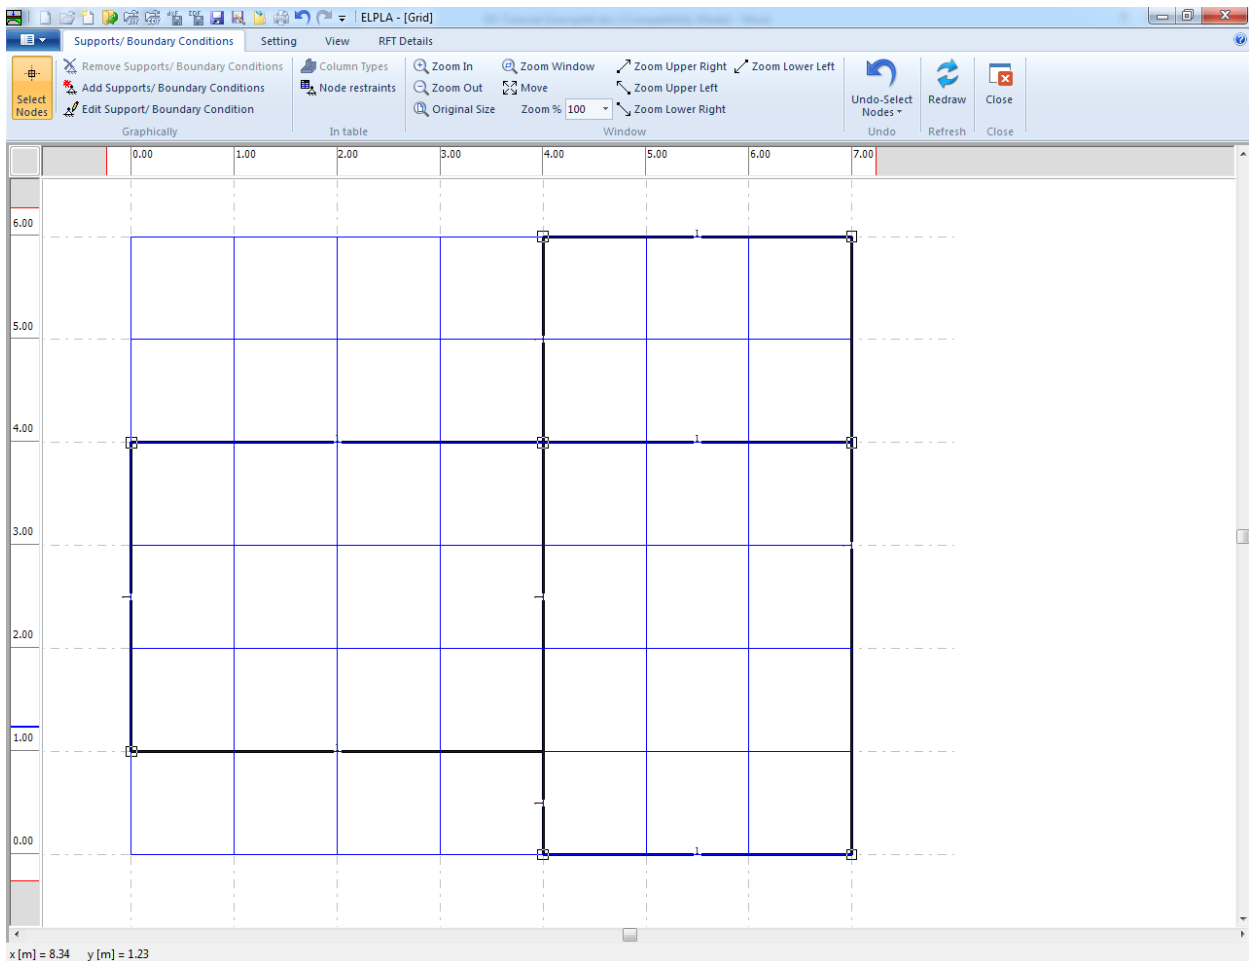
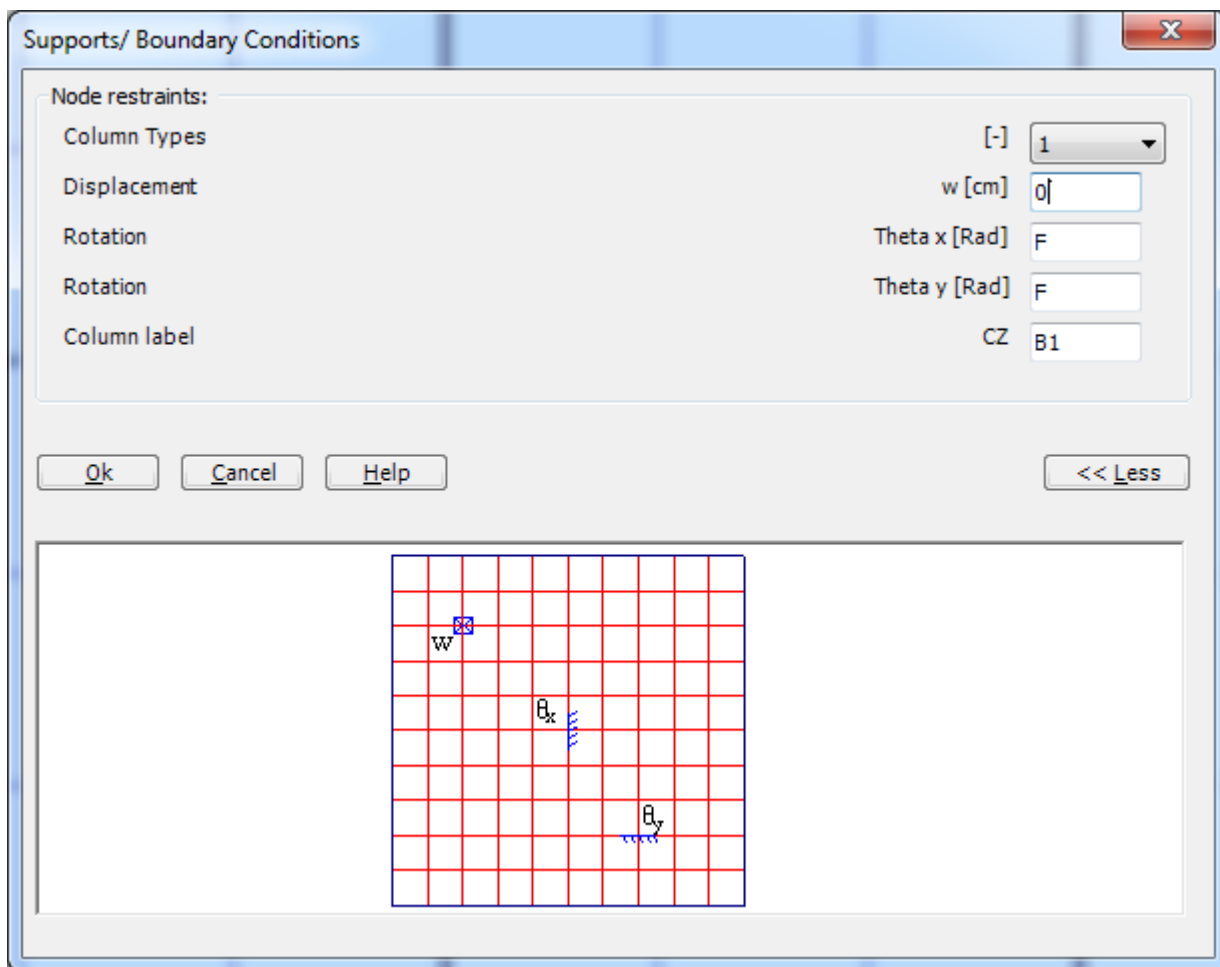

Figure 4.21 Selection of nodes that have supports
Figure 4.22 "Supports/ Boundary conditions" dialog box
- Click the left mouse button on nodes that have supports as shown in Figure 4.21
- After selecting nodes of supports, choose "Add Supports/Boundary Conditions" command from "Graphically" menu in Figure 4.21. "Supports/ Boundary Conditions" dialog box in Figure 4.22 appears